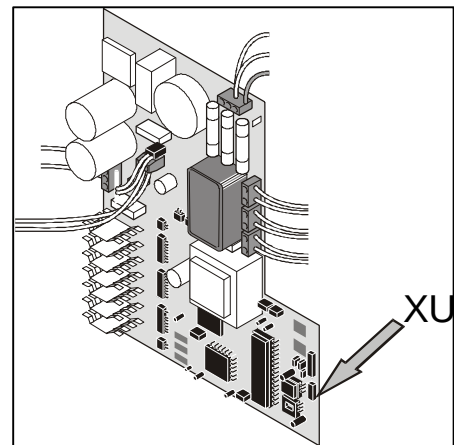

Figure 15
5.3.4 Temperature Sensor (PT100) (370)
- Pull out the plug of the temperature sensor.(Figure 15)
- Unscrew the "PG 9" nut for isolation pass-through (374) underneath the chamber by means of an opened wrench.
- Unscrew the screw (373) for the clamp (371) from the sensor (370) within the chamber.